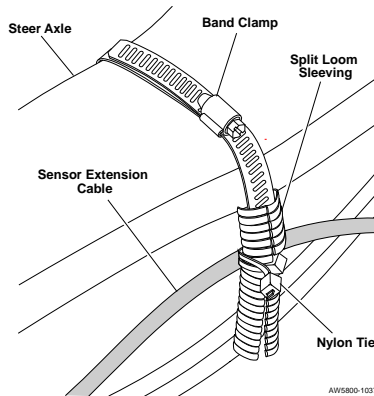

Figure 18. Securing the Sensor Extension Cable
5. Routing the sensor cable: Run the steer sensor cable (014-1500-028) along the rear of the axle towards the side of the truck (driver's side or passenger's side), securing with a band clamp (p/n: 139-0016-000). Place split loom (p/n: 380-0004-001) over the band clamp where it crosses over the cable. Secure the cable to the band clamp with nylon ties (p/n: 145-4552-001). See Figure 18. Use additional 24" nylon ties (p/n: 145-0007-000) as required to secure the cable to the steer axle.